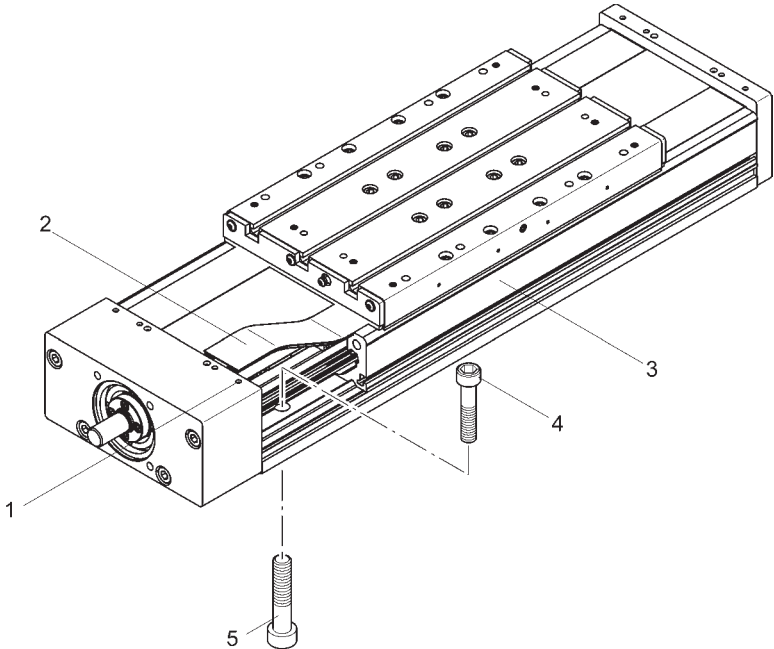

Fig. 4
1. **Fig. 4:** Release clamp (1) for outer sealing strip.
2. Lift the sealing strip (2) and loosen the appropriate attachment screw (4).
1. **Fig. 4:** Loosen the relevant attachment screw (5).